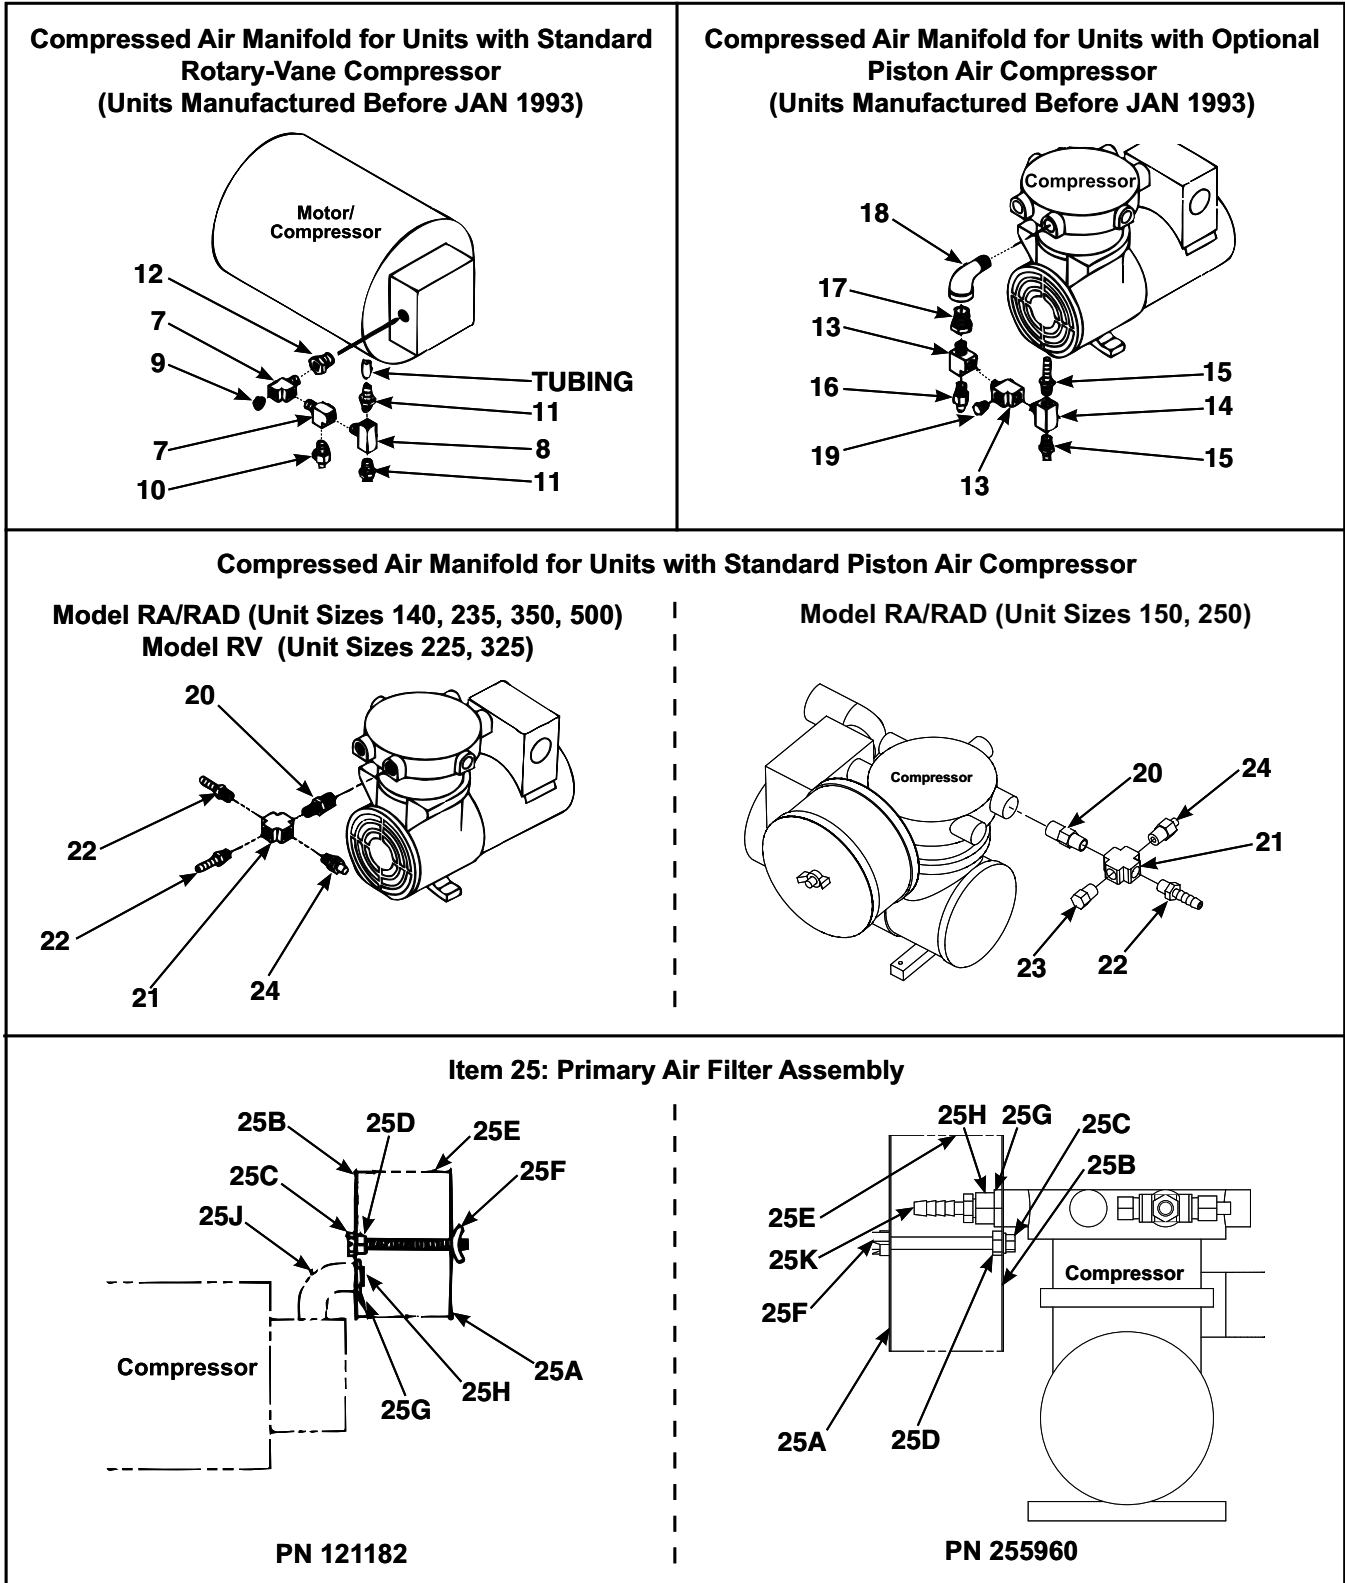

Figure 6. Compressed Air Manifolds and Primary Air Filter Assemblies (Refer to Table 8)
- Burner compressed air system components are shown in Figure 6 and listed in Table 8.